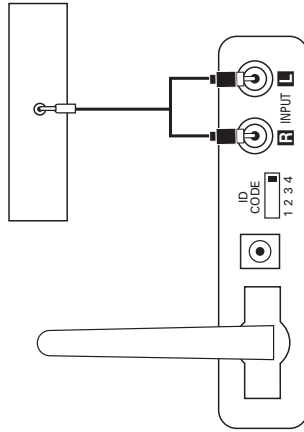

Figure 5.
Step 1. Connect the RCA – 1/8-inch mini-jack cable (included) to the preamp out, line out or headphone output of your portable audio player and the inputs on the transmitter module ④, as shown in Figure 5.